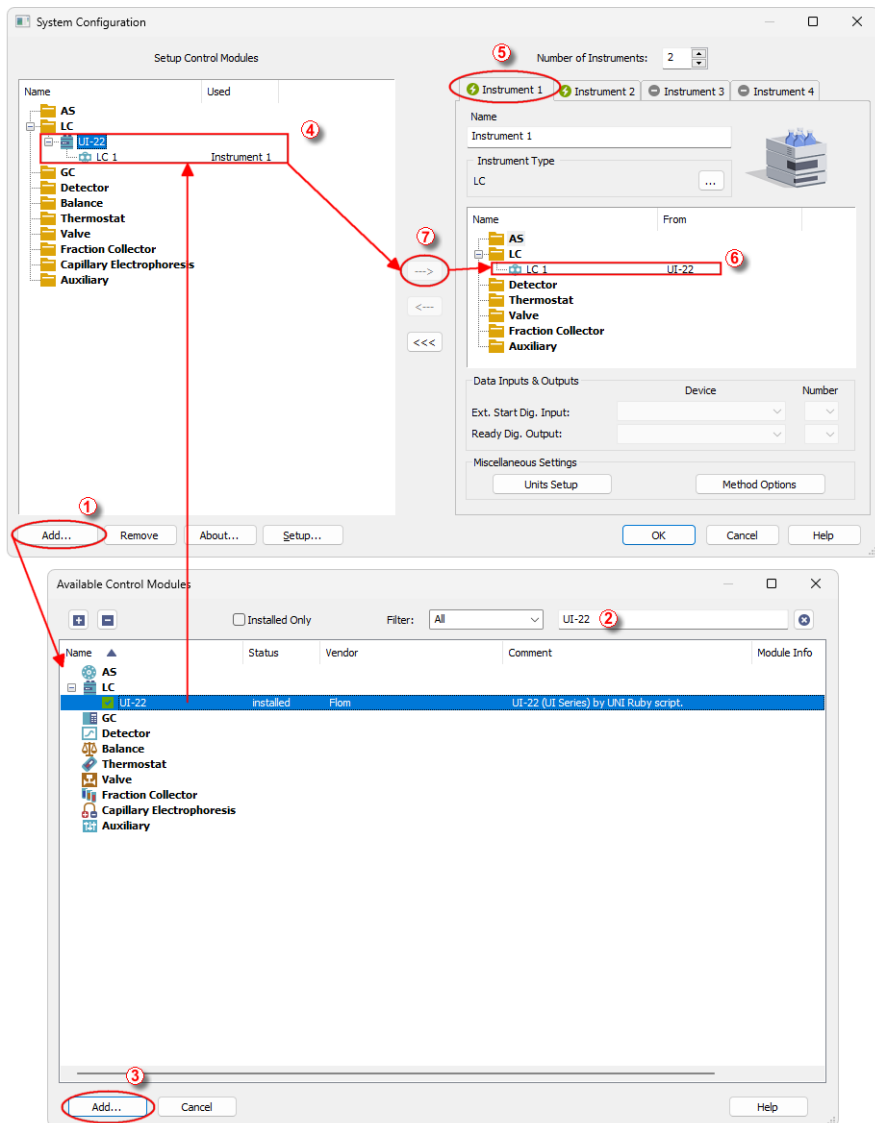

Fig. 3: How to Add Flom pumps module
- Press the **Add** button (① on **Fig. 3** on pg. 4.) to invoke the *Available Control Modules* dialog.
- You can specify the search filter (②) to simplify the finding of the driver.
- Select the correct item and press the **Add** (③ on **Fig. 3** on pg. 4.) button. Each device with already created UNI profile should have its own item named accordingly in the *Available Control Modules* dialog.